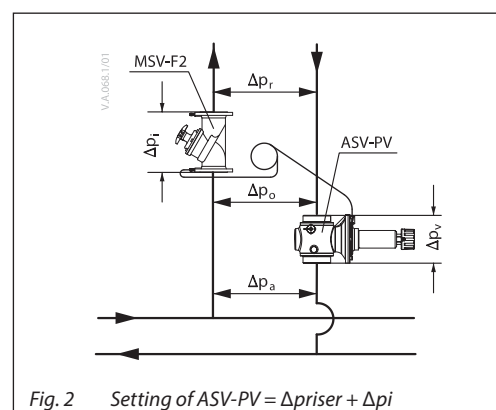

Fig. 2 Setting of ASV-PV = $\Delta p_{\text{riser}} + \Delta p_i$
- partner valve inside control loop (Fig. 2). Offers flow limitation on the riser however part of the controlled pressure range is used by pressure drop on partner valve (Δp_i). It is recommended when flow limitation on each terminal units is not possible.